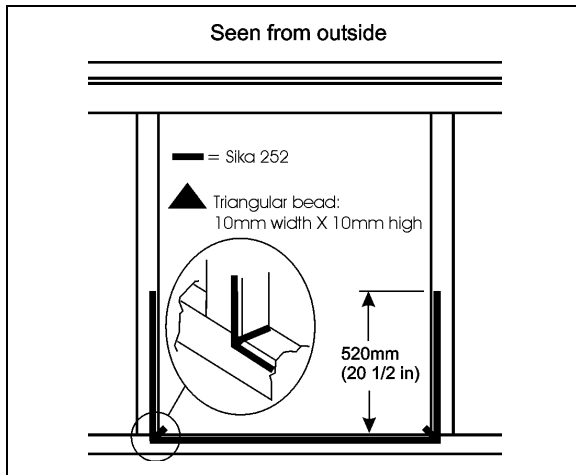

FIGURE 70: AWNING WINDOW – SIKa 252 APPLICATION
7. Apply Sika 252 as per FIGURE 70 (triangular bead: 10mm width X 10mm high) [10mm≈3/8"];